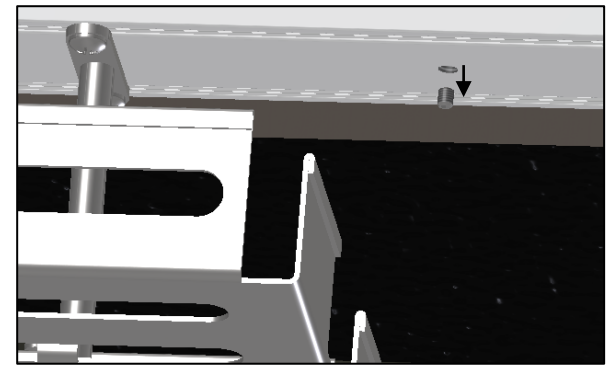

Figure 1
1. Loosen both set screws located on the bottom of the aluminum rail using the 5/32" Allen wrench (Figure 1)